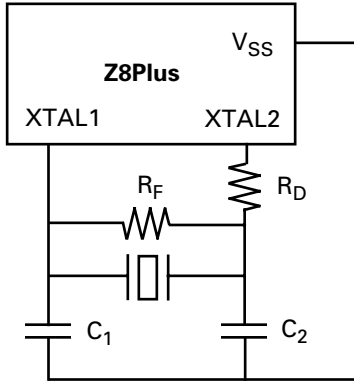
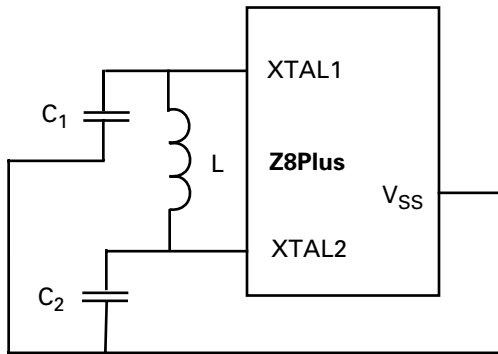

Figure 16. Crystal/Ceramic Resonator Oscillator
Figure 17. LC Clock
Crystals and ceramic resonators (Figure 16) should exhibit the following characteristics to ensure proper oscillation:
Depending on the operation frequency, the oscillator may require additional capacitors, C_1 and C_2 , as illustrated in Figure 16 and Figure 17. The capacitance values are dependent on the manufacturer's crystal specifications.
Figure 16, Figure 17, and Figure 18 recommend that the load capacitor ground trace connect directly to the V_{SS} (GND) pin of the Z8Plus. This requirement assures that no system noise is injected into the Z8Plus clock. This trace should not be shared with any other components except at the V_{SS} pin of the Z8Plus.
The Z8Plus oscillator can use an inductor capacitor oscillator (LC) network to generate an XTAL clock (Figure 17).